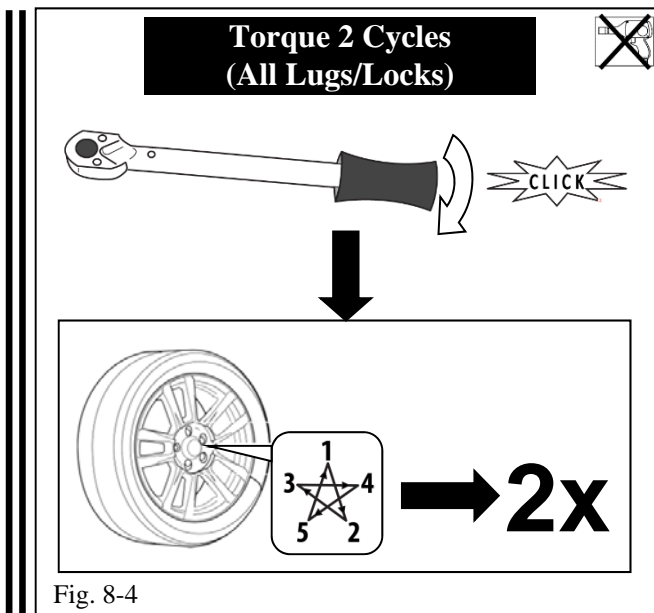

Fig. 8-4
- (i) Use a torque wrench to tighten the lug nuts in sequence 1 through 5 to 103N·m (76 ft·lbf) (Fig. 8-4).
- (j) Re-torque all of the lug nuts in same the 1-5 sequence (Fig. 8-4).